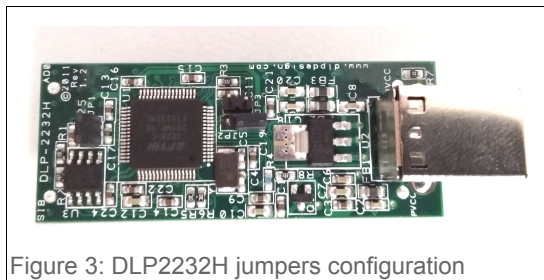

Figure 3: DLP2232H jumpers configuration
2. The DLP2232H module must be configured with jumpers JP1 to JP3 as it is shown in Figure 3. JP1 plugged, JP2 plugged to the right and JP3 unplugged.